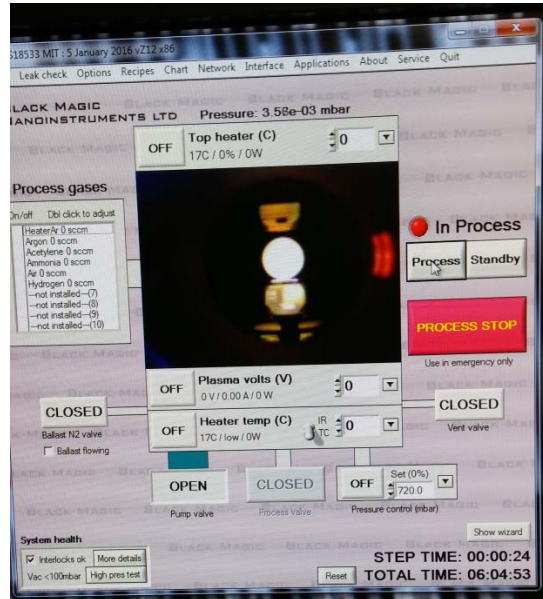

Figure 14
- 24- Click *PROCESS*. A red dot appears above In Process. Also a red PROCESS STOP button appears (Figure 14). For the system to go into Process mode: